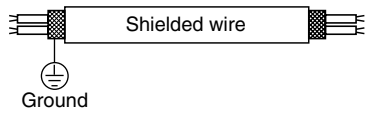

Fig. 5-6
- (5) Use shielded wires for inter-unit control wiring (c) and ground the shield on one side, otherwise misoperation from noise may occur. (Fig. 5-6)